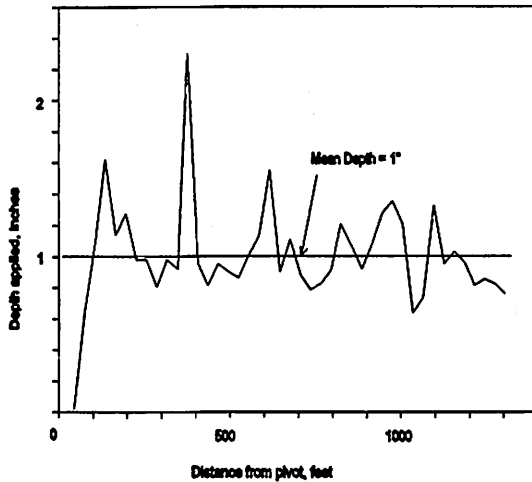
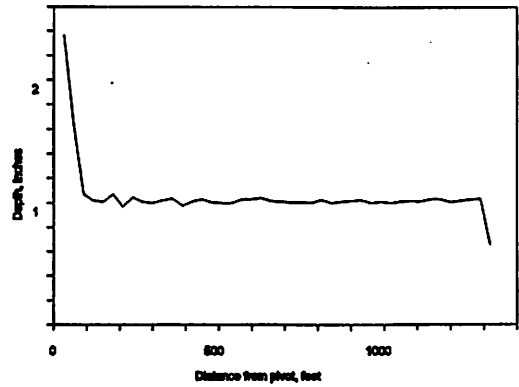

Figure 1. "Good" uniformity
Figure 2. Excellent uniformity
Of course you know how much water you apply. Your pump puts out 900 gallons per minute to irrigate 130 acres, and you usually set the percent timer to make a revolution in 66 hours. That pencils out to almost exactly 1 inch per irrigation. How that water gets distributed across the field has a lot of bearing on how effective the irrigation is, however. Figures 1 and 2 show the depth of water distribution along the machine for two very different, but both considered acceptable, center pivots. In the first case, the depth of water varies (forget about the first 100 feet or so) from about 2.3" to 0.6" as you walk out along the machine. If you are watching a spot receiving a low application, you may conclude that you are not pumping as much as you thought. Conversely, several spots may be way overwatered. Under the pivot shown in Figure 2, on the other hand, it really doesn't matter much where you look -- the application is about the same. Thus, the question as to how much water you really apply depends on the question, Where?, and the answer can have a big impact on the real cost of irrigation. We are going to use results of field tests to estimate the impact of the question on the bottom line--your pocket book, assuming that you know how much water the crop needs and manage to apply that amount -- somewhere.
Figure 1 shows the depth of water applied along a typical center pivot evaluated by the SCS in Colorado (SCS26). We often use a number called the coefficient of uniformity (CU) to express how much the water application varies, and for many years designers have considered that 80 to 85% is sufficient. Of 60 pivots measured by the SCS in Colorado in 1983, the average CU was 81.8%. We can see that there are almost unlimited "depths" of water applied, depending on where you look. We will evaluate several ways of determining "depth" and what they mean in terms of the number of irrigations and the costs associated with irrigation. The most obvious depth, called the "mean depth" (MD) is calculated by multiplying the pump discharge by the irrigation time then dividing by the area covered. It is obvious from Figure 1 that some areas receive more than the mean depth, some less. In fact, from a mathematical viewpoint, there is not one square foot that gets exactly the mean depth. About half the field is overirrigated, half is underirrigated.
We know it is possible to achieve higher uniformity than shown in Figure 1. Figure 2 is a high pressure, impact head system that has had its nozzle package tuned to the point that CU is better than 96%, a value that can be achieved with impact heads, spray heads, or in-canopy hardware (such as LEPA). One thing obvious from Figure 2 is that it really doesn't make much difference how you measure the depth if uniformity is high. The mean depth (MD) is about the same as the MLQ, the minimum or the maximum.